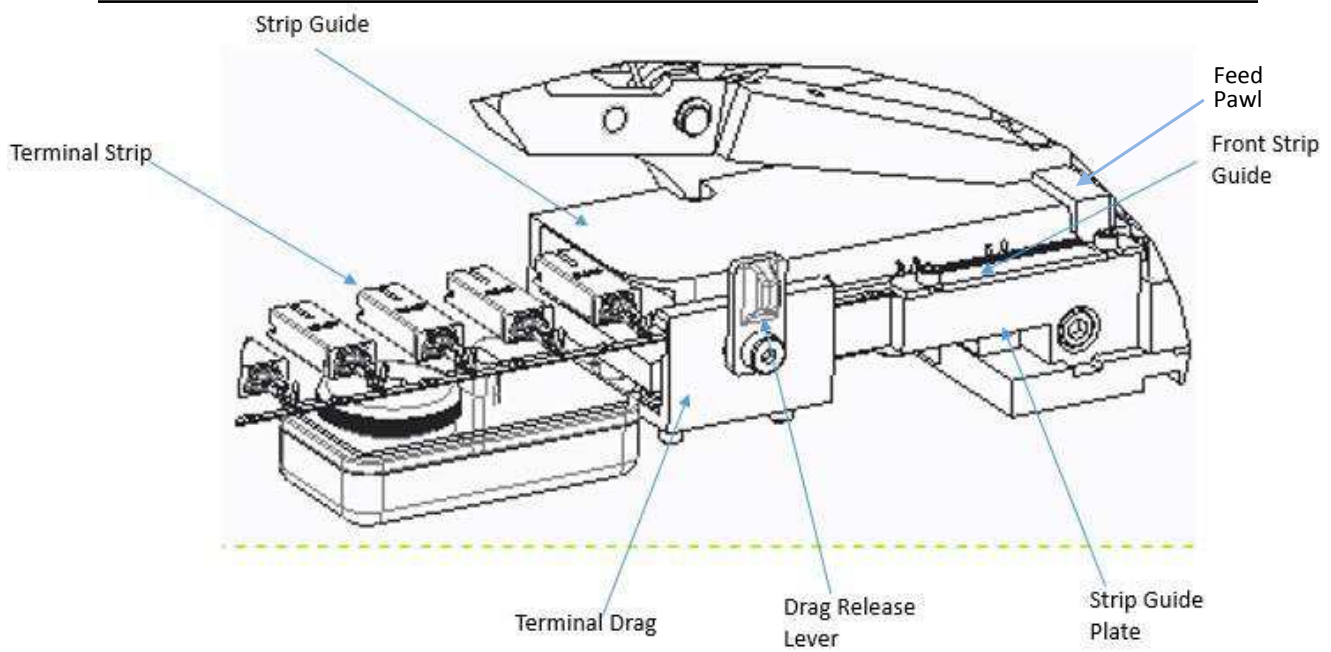

Figure 6
3. Raise Terminal Drag and feed terminal strip into the Applicator between Strip Guides (see Figure 6).
2. Pull back on terminal strip to be sure feed point is against Feed Finger (see Figure 6).
Getting the adjustment of the Feed Pawl to match any change in the position of the Front Strip Guide is also described here (refer to Figure 6).